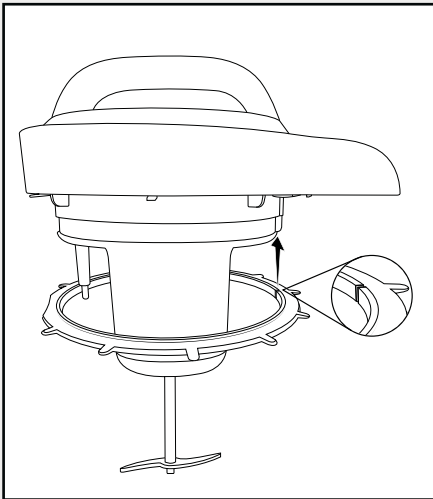

Fig. 1
- Push the sealing ring **8** back onto the lid **9** so that the sealing ring **8** slides into the recess. Make sure that the small notch on the sealing ring **8** is wrapped around the fixing lug on the cover **9** (Fig. 1). The flattened side of the sealing ring **8** should lie on the same side as the sensor **7**: